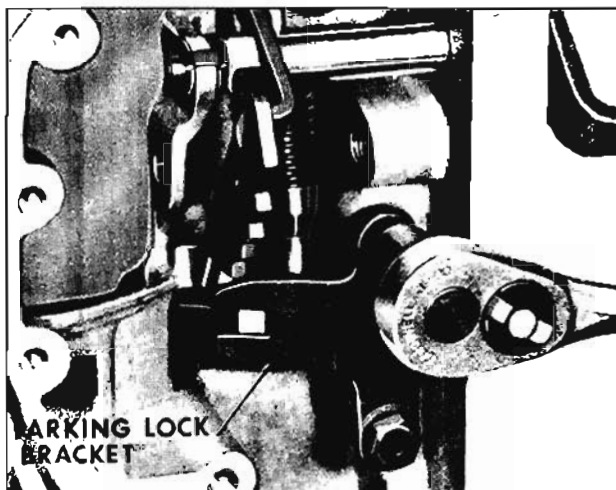

Fig. 6-416 Installing Parking Lock Bracket
7. Install parking bracket to transmission case. Torque bolts 8 to 12 ft. lbs. (Fig. 6-416)